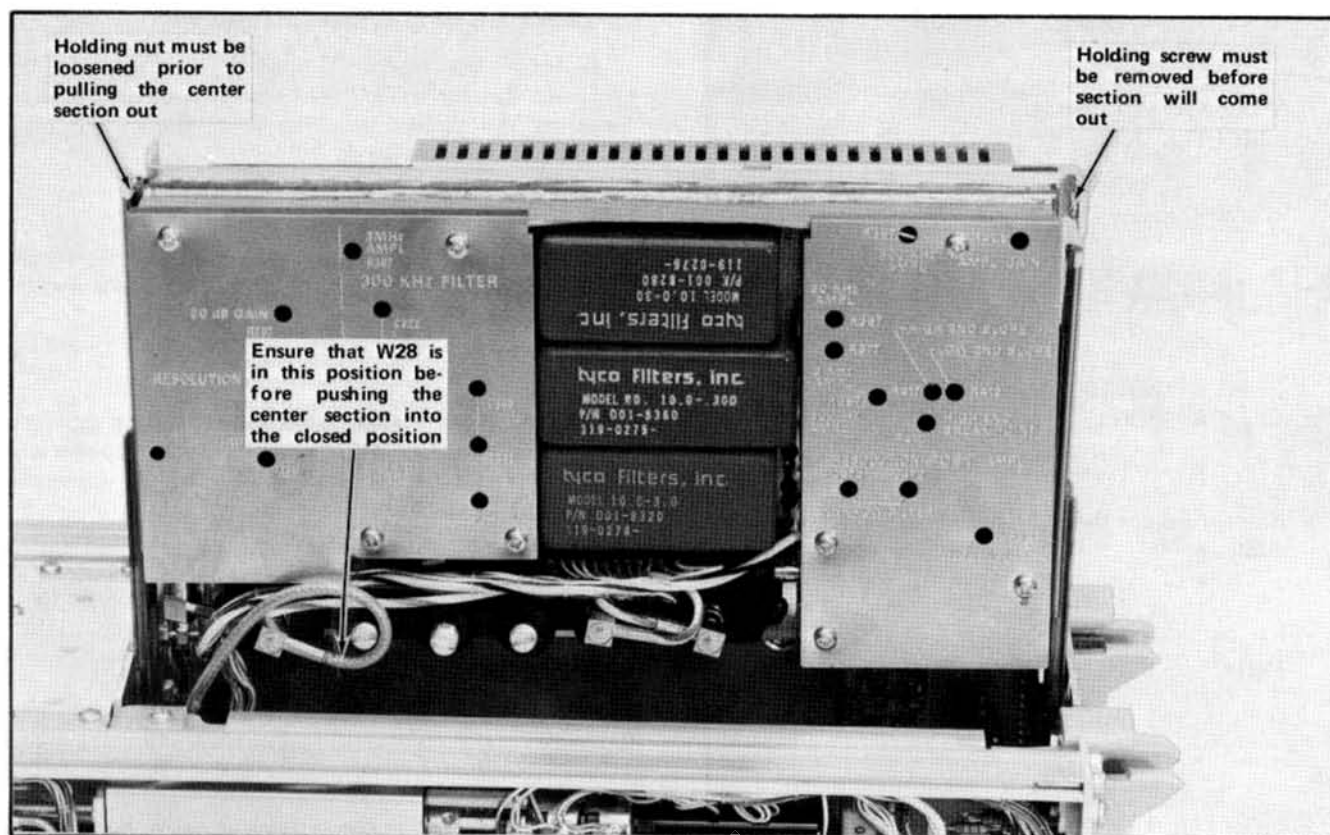

Fig. 4-1. Rackmounted center section pulled out to its latched detent, ready for servicing.
2. Remove the 7L12 from the oscilloscope compartment. Remove the holding screw for the rackmounted center section and pull the section out to its latch position (Fig. 4-1).
*To replace the center section, turn the instrument on its side so the section can be pushed down into the instrument. Tap the assembly past the rail detents and ensure that the cables to the center boards are not binding its travel. See Fig. 4-1.*